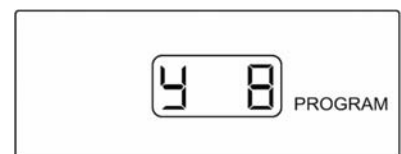

Figure 2-11
- 1) The first thing that you will adjust is the Year (Y). Pressing the **S** button for 3 seconds will cause the center digit after the Y to flash (see Figure 2-11). This should remain a 0 until the year 2010, and then it will be changed to a 1 for 2010. Pressing the up and down arrow buttons will adjust the value of this digit. When you have selected the number that you want, press the right button to adjust the right digit in the same